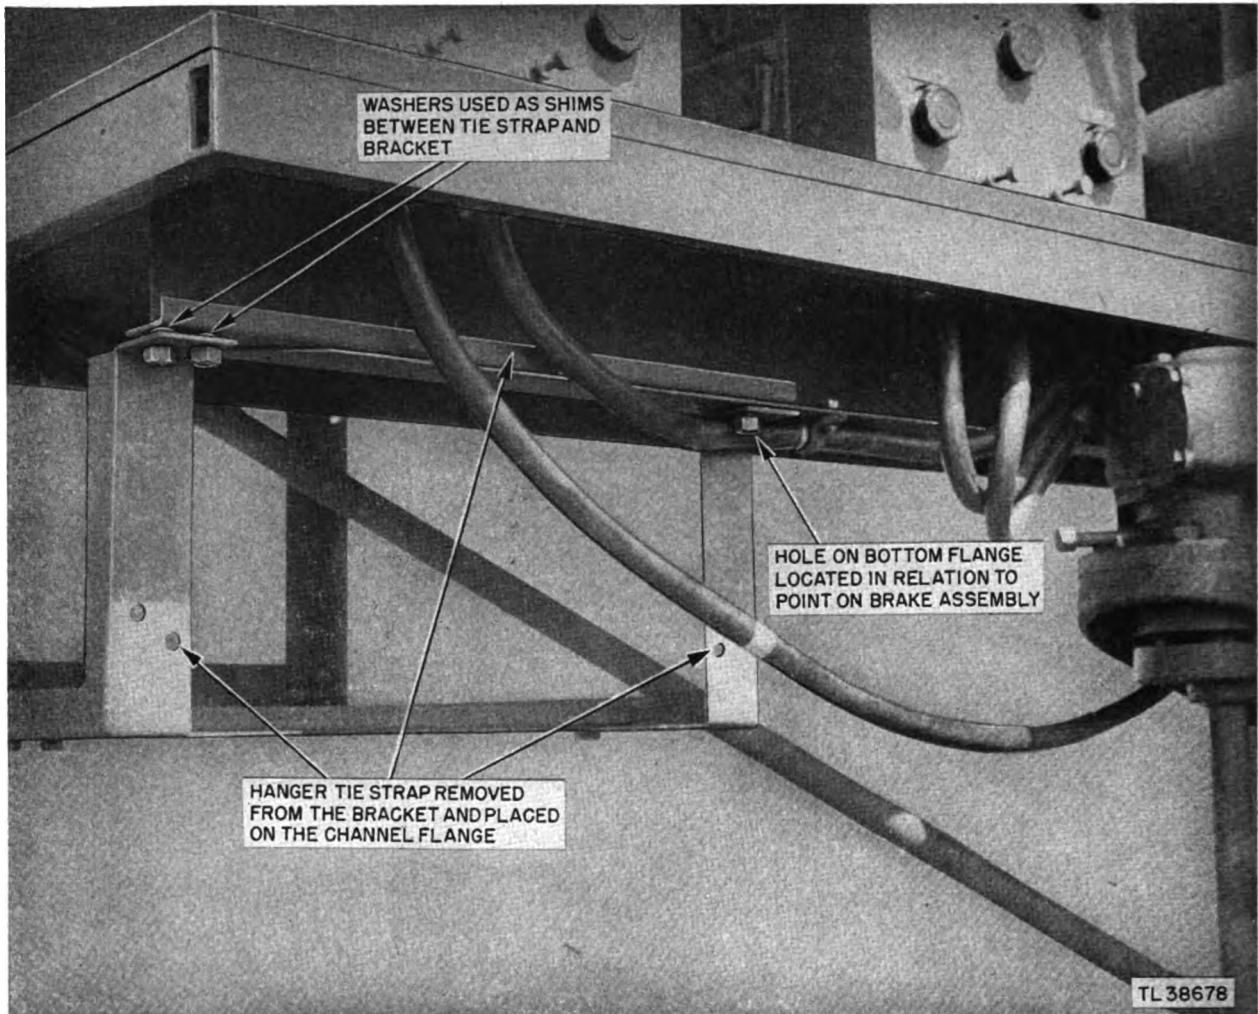

Figure 29. Use of the front hanger tie strap as a channel extension.
j. Raise mounting bracket into position as shown in figure 29, and with one man holding bracket, insert and fasten bolt through the drilled hole and the hole nearest the end in the right-hand mounting hanger.
*m.* If the left-hand mounting hanger is noted to be beyond the end of the channel flange, remove the hanger tie strap from the bracket and place it on top of the channel flange as shown in figure 29.
*n.* Again place the mounting bracket in position, reset bolt in the first drilled hole (through corresponding hole in tie strap). Complete installation by inserting a 3/8 inch-16 x 3/4" hex head bolt in each of the seven remaining holes. Place a 3/8-inch split washer and a 3/8-inch-16 hex nut on each bolt and tighten securely, figure 29. Use a lockwasher as a shim where a spacer is required between the left-hand mounting hanger and the tie strap.